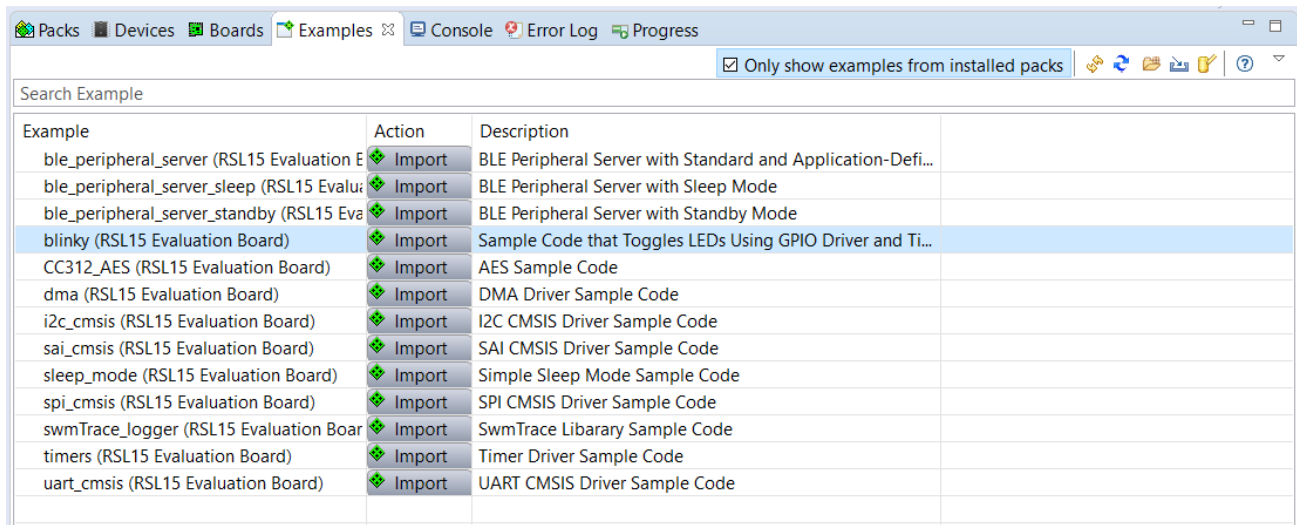

Figure 36. IAR Embedded Workbench CMSIS Manager: Examples Tab
2. Choose the example project called **blinky**, and click the **Copy** button to import it into your workspace (see the "IAR Embedded Workbench CMSIS Manager: Examples Tab" figure (Figure 36)). Choose a destination folder for a copy of the sample code.